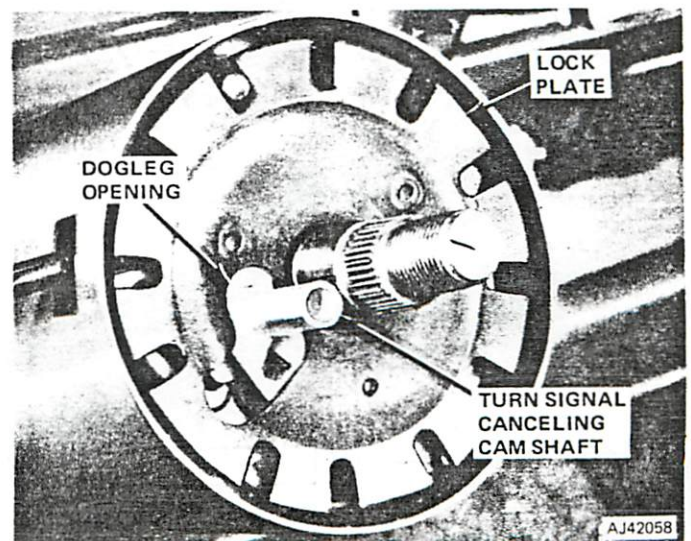

Fig. 2J-34 Canceling Cam and Lock Plate Position
(15) Rotate shift bowl counterclockwise to stop and install upper housing. Tighten housing attaching screws to 60 inch-pounds (7 N•m) torque.
(16) Guide shift quadrant lamp wire and remote lock rod into position between shift bowl and column jacket.
(17) Install turn signal switch and harness assembly in column.
(18) Remove tape from turn signal switch wire harness connector and position harness in protector and protector-to-column jacket.
(19) Install turn signal switch retaining screws. Be sure switch actuating lever pivot is correctly aligned and seated in upper housing pivot boss before installing screws.
(20) On vehicles without Cruise Command, install turn signal lever and lever attaching screw. Tighten screw to 35 inch-pounds (4 N•m) torque.
(21) On vehicles with Cruise Command, install turn signal lever and switch assembly. Guide wires into housing using string previously taped in place. Remove string and tape. Connect wires to switch terminals. Install lever attaching screw and tighten screw to 35 inch-pounds (4 N•m) torque.
(22) Install steering shaft, if removed. Install shaft through lower end of column and into upper bearing.
(23) Install thrust washer, upper bearing preload spring, and canceling cam on upper end of steering shaft.
(24) Align lock plate splines with steering shaft splines and install lock plate. Be sure canceling cam shaft protrudes through opening in lock plate (fig. 2J-34).
(25) Install replacement steering shaft snap ring on sleeve of Lock Plate Compressor Tool J-23653 and install tool on steering shaft (fig. 2J-25).
**CAUTION:** *Inspect and identify the steering shaft nut thread type before installing the compressor tool. If the shaft has metric threads (fig. 2J-2), be sure to replace the compressor tool standard forcing screw with Metric Forcing Screw J-23653-4 before installing the tool on the shaft.*
(26) Compress lock plate and seat snap ring in steering shaft groove.
(27) Remove compressor tool.
(28) Install lock plate cover.
(29) Align canceling cam and index marks on steering shaft and steering wheel and install steering wheel. Tighten steering wheel nut to 30 foot-pounds (41 N•m) torque.